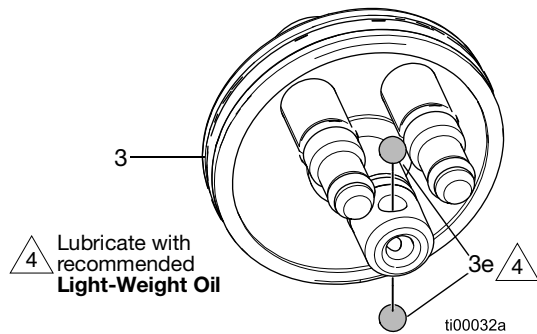

FIG. 35: Piston Ball Bearings Location
1. Ensure the ball bearings (3e) are in place. See FIG. 35.
3. Push the piston (3) into the gun body.
4. Lubricate and install the spring guide (9) into the piston (3).
5. Install the fluid spring (11).
6. Install the air spring (16).
7. Tighten the piston cap (5) onto the gun.